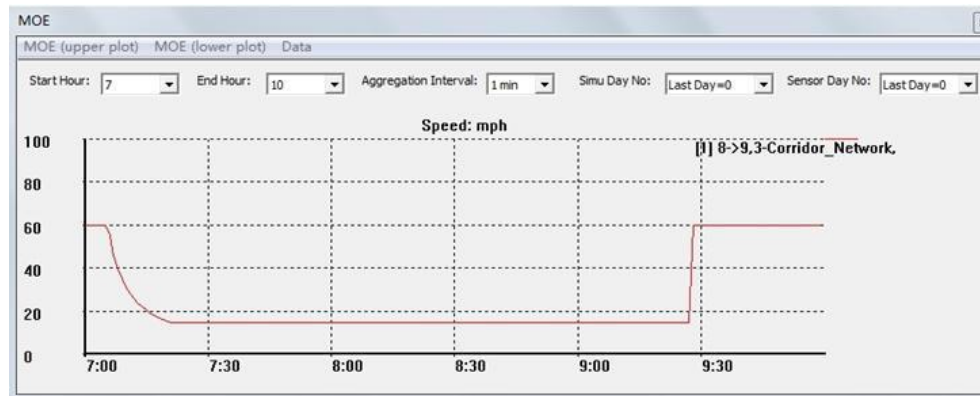
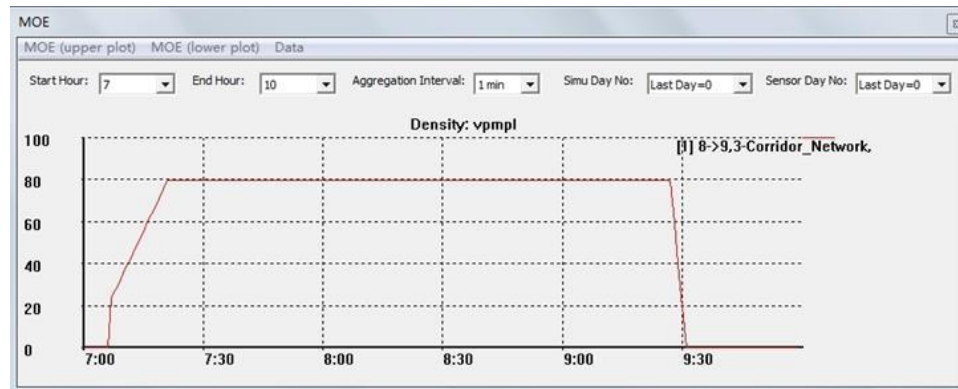

Fig.29. Simulated speed of link 8->9
Fig.30. Simulated density of link 8->9
3) Check the speed, density, and propagation time of link 8->9 from the “Link MOE” dialog, shown in Fig.29. and Fig.30, respectively.